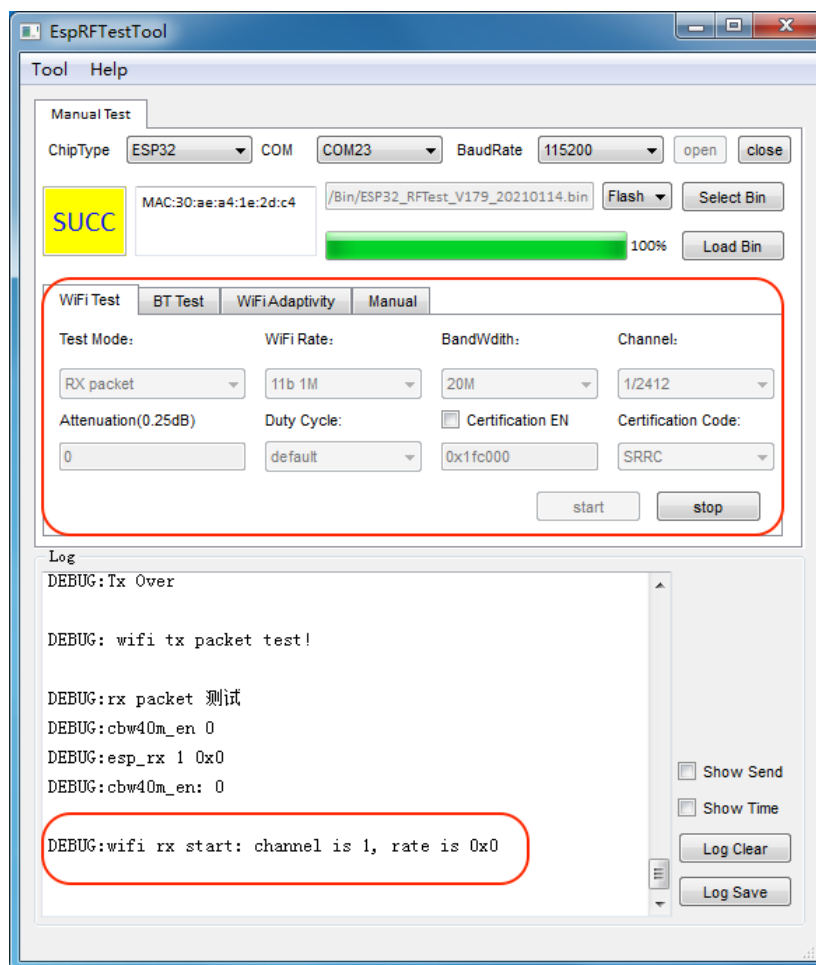

Figure 2-4. ESP32 Wi-Fi Receiving Test Interface
- If testing receiving, select **RX packet** as the **Test Mode** and other options as needed. Figure 2-4 shows the ESP32 Wi-Fi Receiving Test interface.